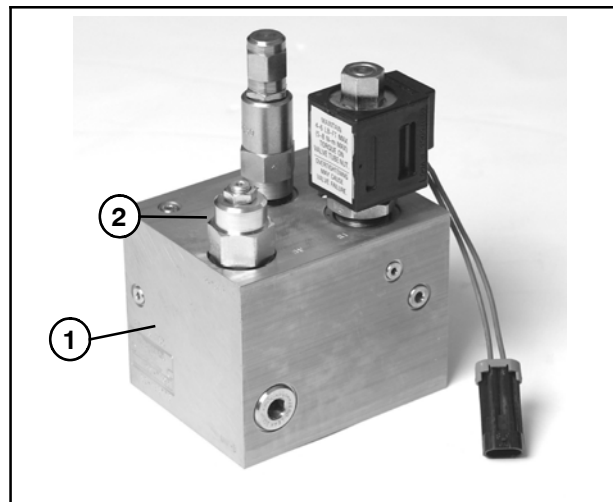

Figure 72
1. Loosen lock nut on braking valve (Fig. 72).